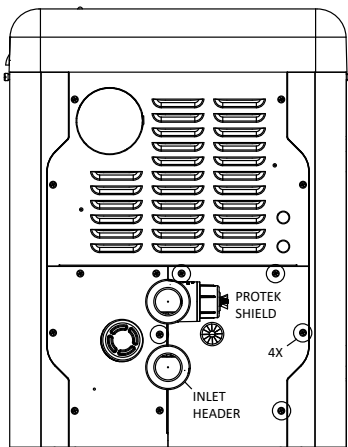

Figure 1. Remove AVIA Model Panel
7. Using a Phillips screwdriver, remove the four (4) screws (AVIA models) or three (3) screws (Atmospheric models) that secure the access panel to the heater, exposing the ProTek's grounding wire (see **Figures 1 and 2**).